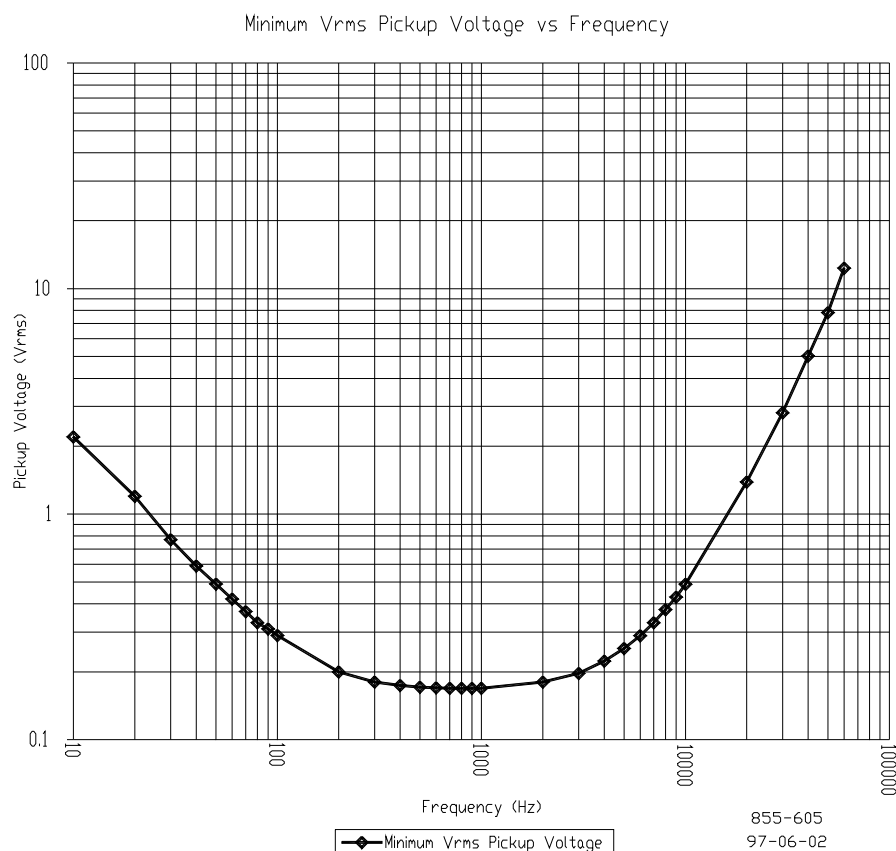

Figure 4-7. MPU Pickup Voltage vs Frequency
- Refer to Figures 4-7, 4-8, and **Appendix A** for Analog Input wiring connections on the FTMs.